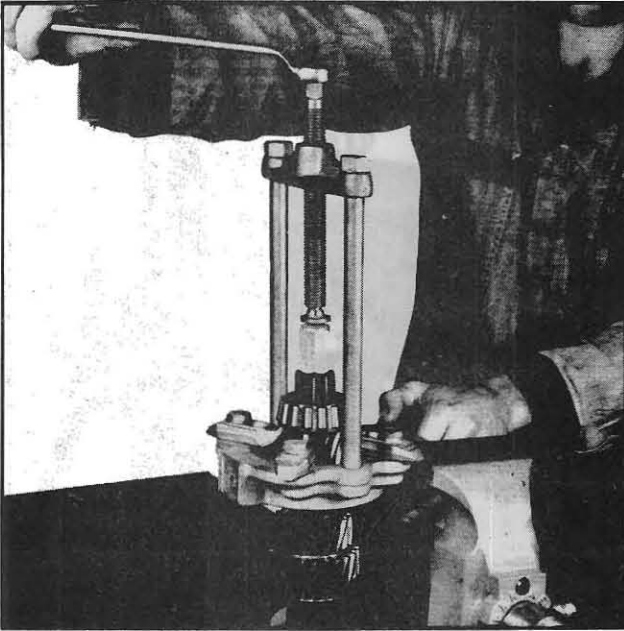

Fig. 239
4. If the bearing on the end of the countershaft is damaged and requires replacing, remove the hex head bolt, washer and PTO clutch hub from the end of the shaft. The bearing may then be pulled from the shaft as shown in Fig. 239, or carefully driven from the shaft with a punch. To install a new bearing, position the bearing on the shaft and using the special collar, SDT-104, and bearing splitter, press the shaft into the bearing. Use of the special collar prevents damaging the bearing cage.